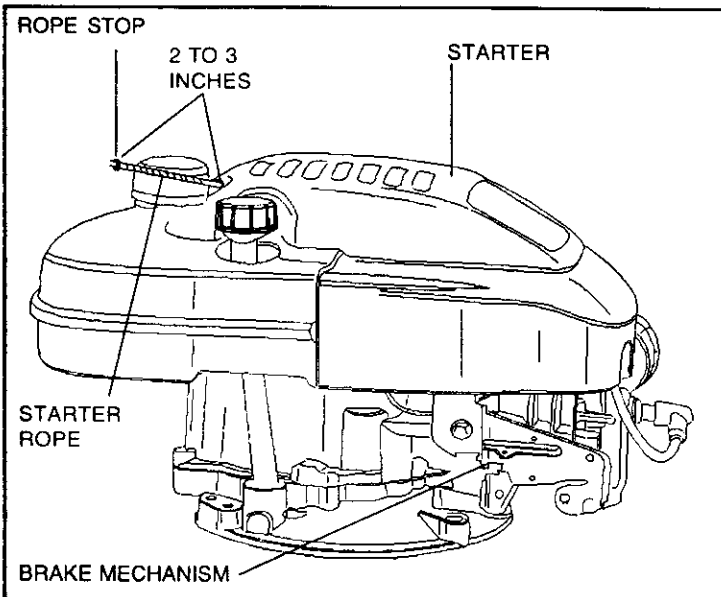
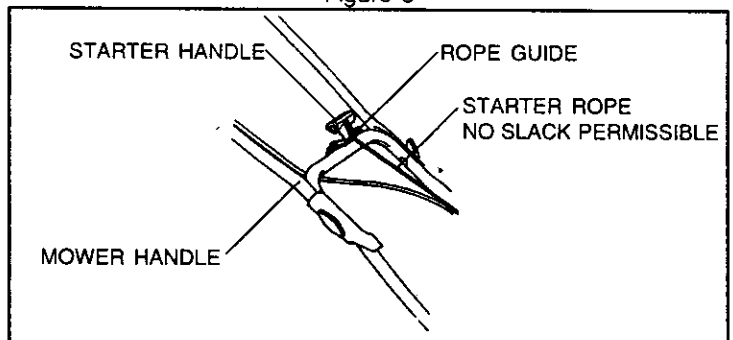

Figure 2
Figure 4
### ② INSTALL ENGINE BRAKE CABLE AND STARTER ROPE: **BRAKE CABLE** (see Figure 2):
- Slide rope stop (see Figure 2) onto starter rope and feed starter rope through rope guide on mower handle (see Figure 4).
- With starter handle resting on rope guide (see Figure 4), check starter rope for slack. If there is any slack, pull more starter rope through starter handle and relocate left hand knot to eliminate slack.
- Position rope stop 2 to 3 inches from starter (see Figure 2) and fasten it to starter rope by gripping it with pliers and forcing staple through starter rope until staple is even with out side of rope stop.
C. Grasp starter handle (see Figure 4) and pull rope out, slowly, until it pulls slightly harder. Let rope rewind slowly. Then pull rope with a rapid full arm stroke. Let rope rewind SLOWLY. Do not let starter handle snap back against rope guide (see Figure 4).